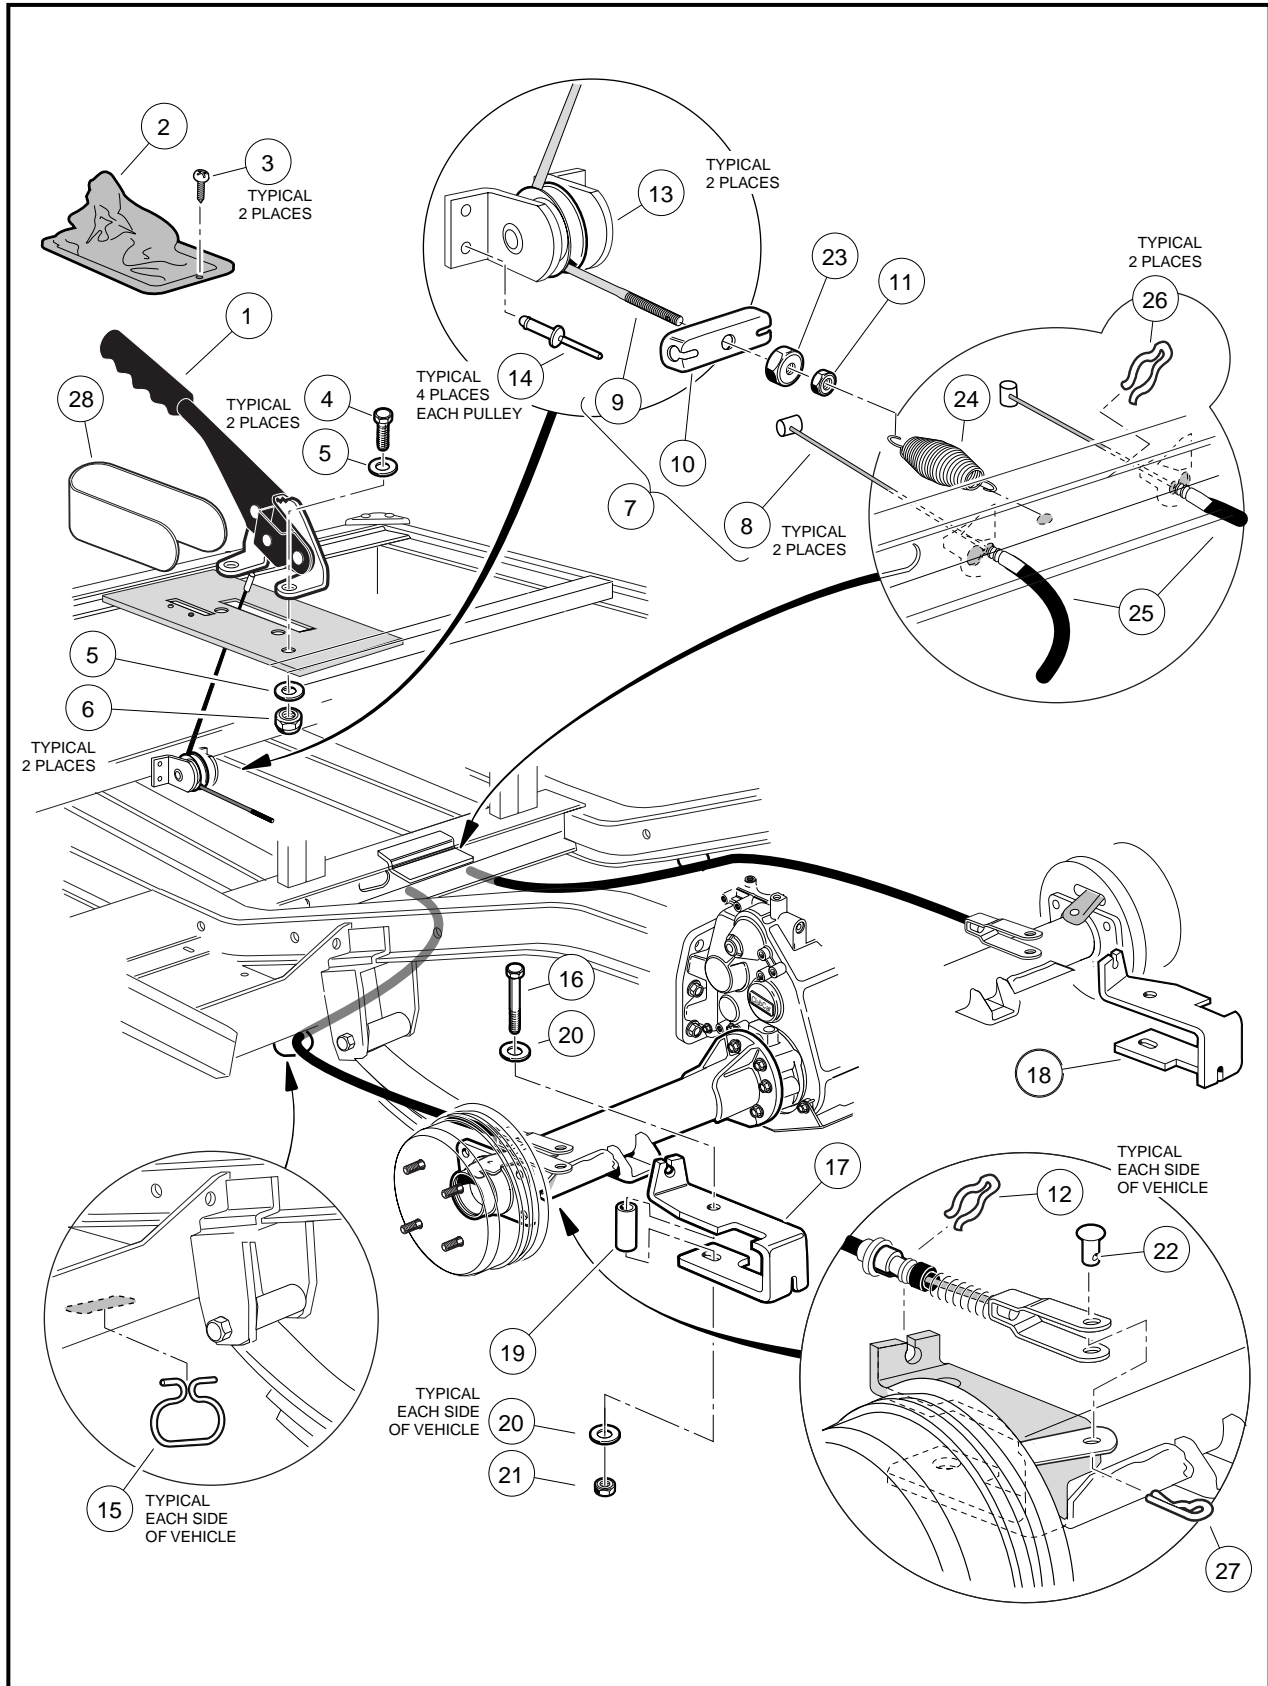

Figure 6-24 Park Brake Assembly
2. Remove the two screws (3) that secure the boot (2) to the seat support (**Figure 6-24, Page 6-32**).
3. Slide the boot (2) off of the park brake handle (1) (**Figure 6-24, Page 6-32**).
4. Remove the boot shield (28) from the park brake handle.
5. Remove the equalizer spring (24) from the equalizer cable (9) (**Figure 6-24, Page 6-32**).
6. Remove the equalizer jam nut (11) and conical nut (23).
7. Remove the end of the park brake cable from handle (1) by pushing the equalizer cable in an upward direction and pulling the cable end toward the passenger side of the vehicle.
2. Loosen the equalizer jam nut (11) and the conical nut (23) to provide slack in the wheel brake cables (**Figure 6-24, Page 6-32**).
4. Remove the cable clip (26) from the wheel brake cable (25) (**Figure 6-24, Page 6-32**).
5. Remove the park brake cable clip (12), hair spring cotter pin (27) and clevis pin (22).
7. Slide the cable through the hanger (15) and remove the cable from the vehicle.
2. Remove the two bolts (4), four washers (5) and two lock nuts (6) from the park brake handle (**Figure 6-24, Page 6-32**).
3. Remove the park brake handle (1) from the seat support.
1. Install the two bolts (4), four washers (5) and two lock nuts (6) to secure the park brake handle to the seat support (**Figure 6-24, Page 6-32**). Tighten the nuts (6) to 23 ft-lb (31.4 N·m).
4. Install the boot shield (28), and boot (2). Tighten the two screws (3), to secure the park brake boot (**Figure 6-24, Page 6-32**).
- 3.1. Loosen the equalizer jam nut (11) and the conical nut (23) to provide slack in the wheel brake cables (**Figure 6-24, Page 6-32**).
5. With the park brake released (down), tighten the conical nut (23) until significant resistance is observed in the equalizer cable in order to fully lock the brakes (**Figure 6-24, Page 6-32**).
8. Using the double-wrench method, tighten the equalizer jam nut (11) against the conical nut (23) to 55 in-lb (6.3 N·m) (**Figure 6-24, Page 6-32**).